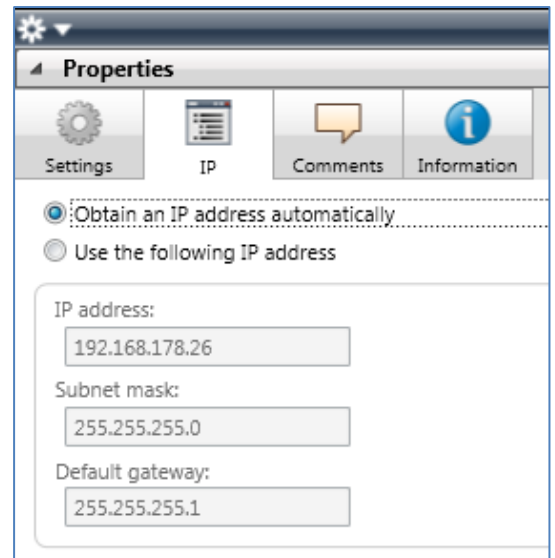

Figure 8: Setting of the IP address data of the device on the "IP" tab in the sidebar of the ETS
3. Select the "IP" tab as per Figure 8: Setting of the IP address data of the device on the "IP" tab in the sidebar of the ETS. Then select either